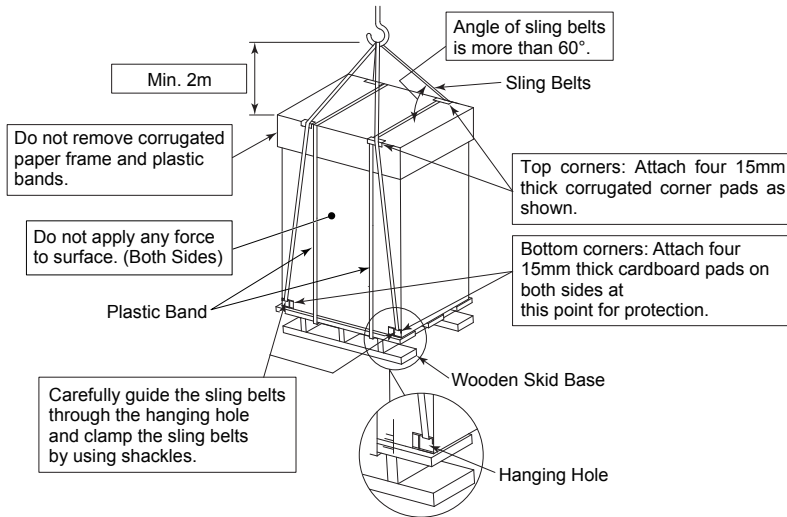

Figure 5.1 Suspending Unit on Wooden Skid Base for Transportation
- (1) Suspend the unit (with wooden skid base) in its packing with two sling belts as shown in Figure 5.1.
- (2) Do not use banding wire.
- (3) Ensure that the unit is balanced.
- (4) Ensure safety while hoisting the unit gently to prevent the unit from tipping over.